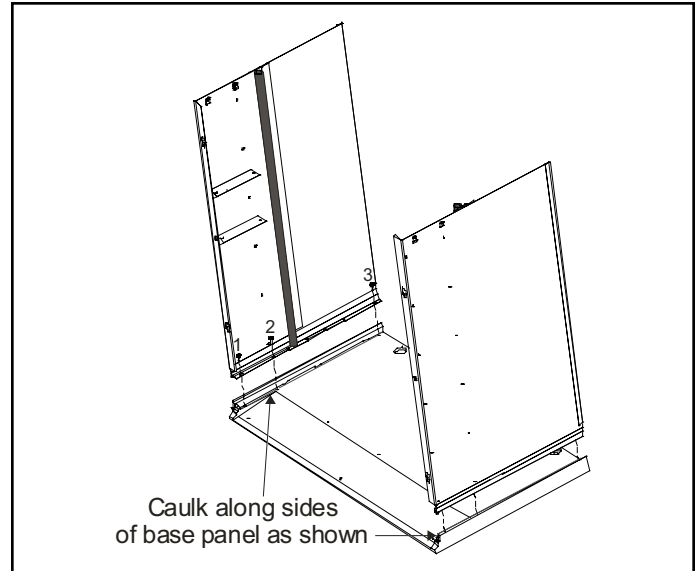

Figure 2. Attaching Side Panels to Base
1. Place plastic base of wall sleeve on flat surface as shown in Figure 2.
3. Install both right and left side panel assemblies on base panel using sheet metal screws (provided). Use three screws (numbered 1, 2, and 3 in Figure 2) per side as shown in Figure 2.